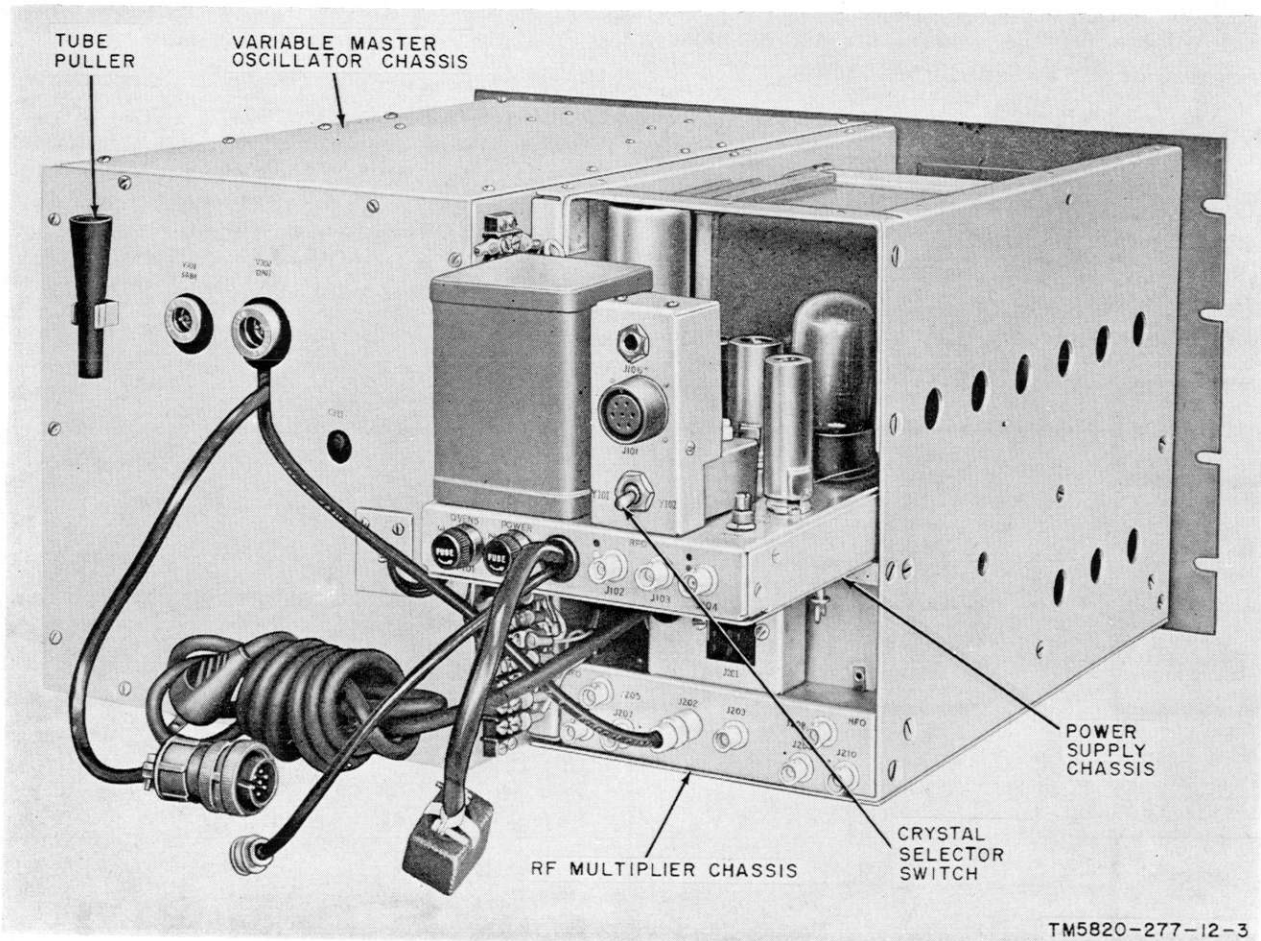
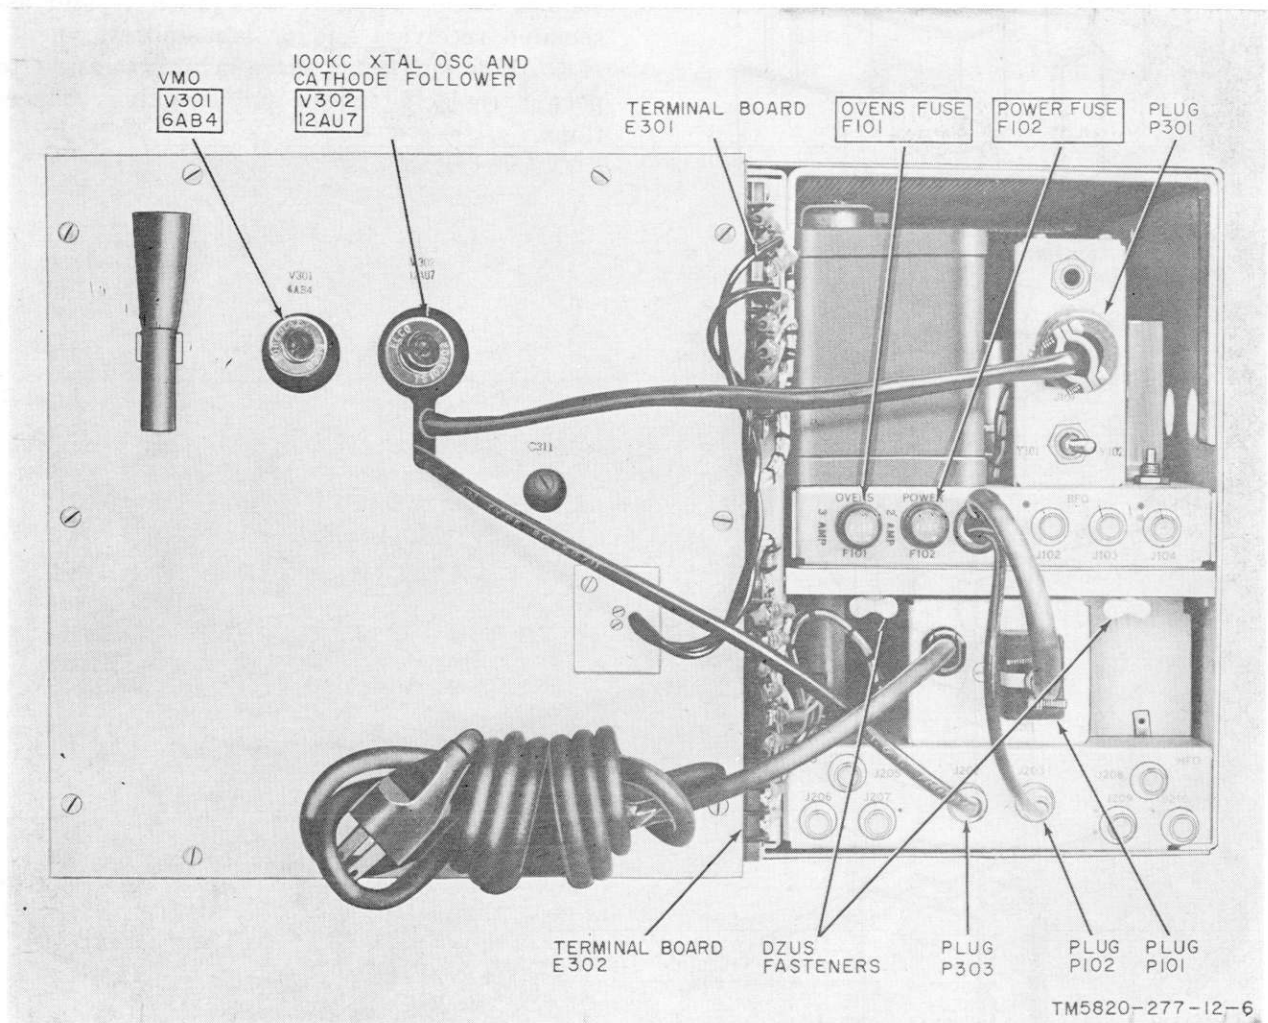
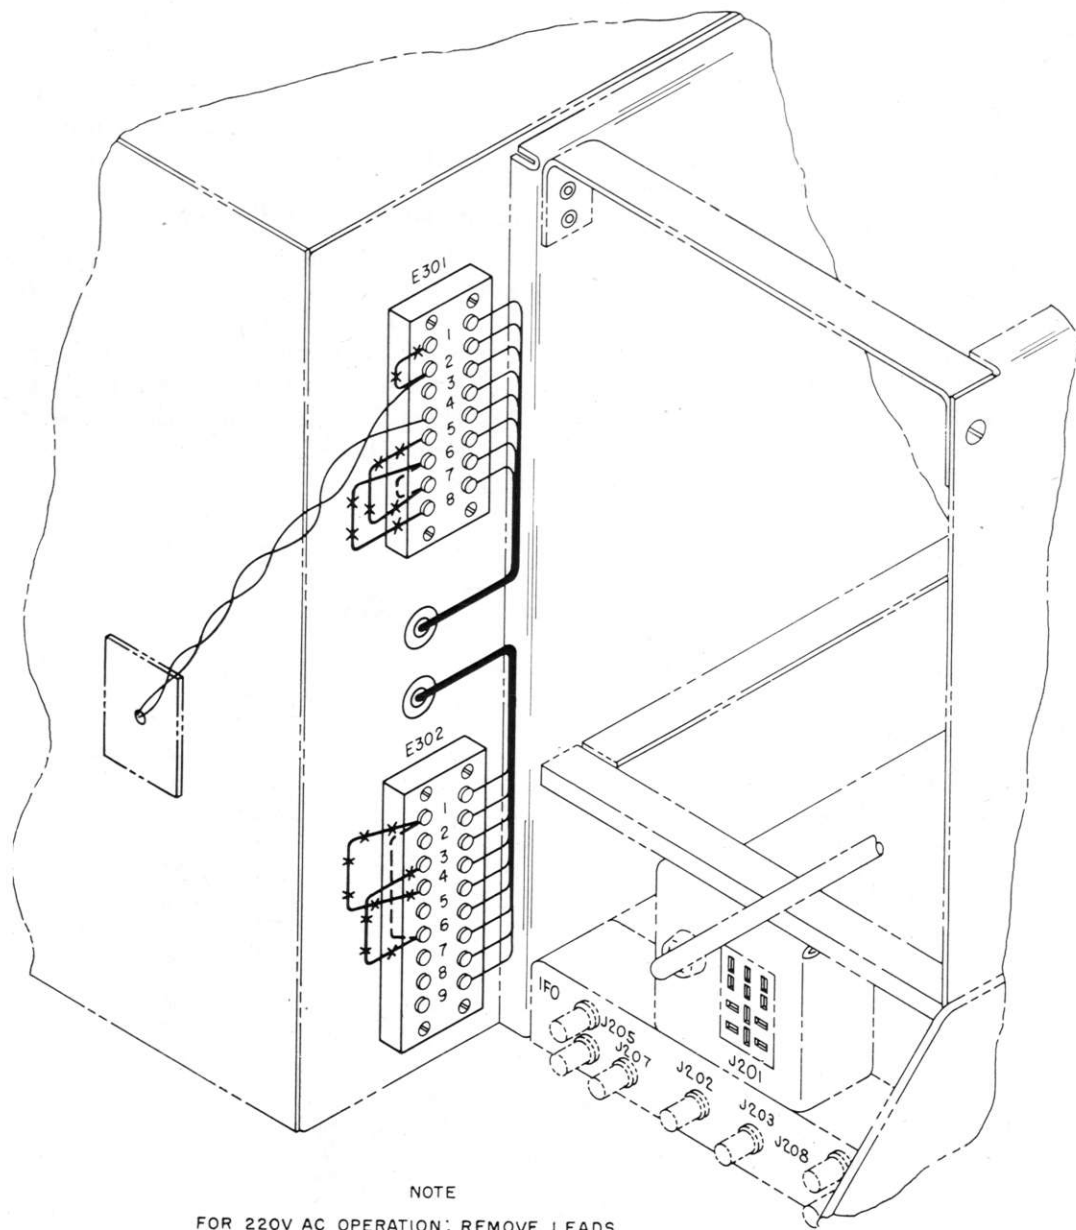

Figure 3. Variable frequency oscillator, with power supply chassis disconnected and partially removed, rear view.
Figure 5. Variable frequency oscillator, rear view.
Figure 9. Oven terminal boards, input voltage wiring modifications.
a. The variable frequency oscillator is designed for mounting in a standard 19-inch relay rack. It consists of a variable master oscillator chassis, an rf multiplier chassis, and a power supply chassis (fig. 3). Controls most frequently used are located on the front panel of the unit; seldom-used controls are on a subpanel mounted on the power supply chassis and can be reached through an access door on the upper left side of the front panel (fig. 10). Fuses for the crystal ovens and the power supply are located in fuseholders at the rear (fig. 5). One crystal selector switch is also located at the rear of the unity.
b. A set of tracks and four Dzus fasteners (two on the front panel and two under the rear of the power supply chassis (fig. 5)) allow for easy removal and reinsertion of the power supply chassis.
a. Install these crystals, when required, and check proper installation of tubes and fuses (fig. 5, 6, and 7). To reach tubes and crystal sockets, remove the power supply chassis as follows:
- (1) Remove the meshed cover plate on the frame over the power supply chassis.
- (2) Disconnect plug P301 from jack J101 (fig. 5).
- (3) Disconnect plug P101 from jack J201.
- (4) Disconnect plug P102 from jack J203.
- (5) Open the four Dzus fasteners (two on the front panel and two under the rear of the power supply chassis). Remove the power supply chassis from the variable frequency oscillator unit by sliding the chassis to the rear.
- (1) For 115-volt ac operation, a 3-ampere fuse is supplied in the OVENS fuseholder and a 2-ampere fuse is supplied in the POWER fuseholder.
- (2) For 230-volt ac operation, use a 1.5-ampere fuse in the OVENS fuseholder and a 1-ampere fuse in the POWER fuseholder.
c. Reinstall the power supply chassis; reconnect the interchassis cables as shown in figure 5.
14. Rewiring for 230-Volt Ac Operation (fig. 9 and 10)
e. Refer to figure 5 for location of terminal boards E301 and E302, and to figure 9 for details of changes described in *f* and *g* below.
h. Reconnect the interchassis cables (fig. 5).